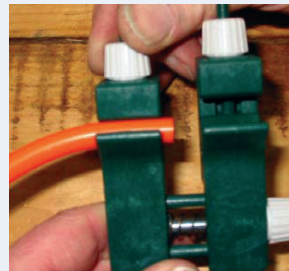
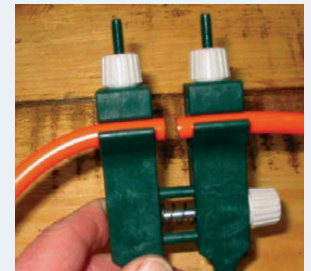

Figure 1
Figure 2
5. Loosen the clamp nuts on top of the mini welder and place the belt ends into each of the clamping grooves. **Warning: Make sure there are no twists in the belt.** Position each belt end in the clamping groove, leaving approximately 1/8" belt overhang in clamp (see Figure 1) and a 5/32" gap between the two belt ends (see Figure 2).